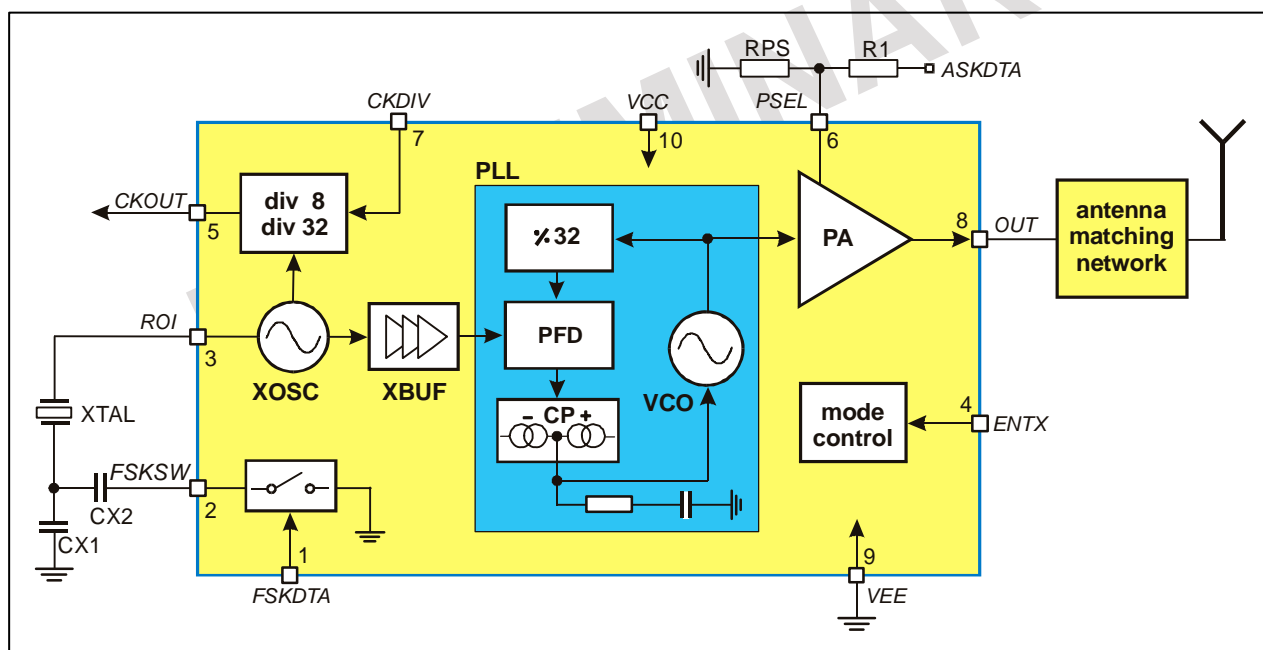

Fig. 1: Block diagram with external components
As depicted in Fig.1, the TH72036 transmitter consists of a fully integrated voltage-controlled oscillator (VCO), a divide-by-32 divider (div32), a phase-frequency detector (PFD) and a charge pump (CP). An internal loop filter determines the dynamic behavior of the PLL and suppresses reference spurious signals. A Colpitts crystal oscillator (XOSC) is used as the reference oscillator of a phase-locked loop (PLL) synthesizer. The VCO's output signal feeds the power amplifier (PA). The RF signal power  $P_{out}$  can be adjusted in four steps from  $P_{out} = -11$  dBm to +9.5 dBm, either by changing the value of resistor RPS or by varying the voltage  $V_{PS}$  at pin PSEL. The open-collector output (OUT) can be used either to directly drive a loop antenna or to be matched to a 50Ohm load. Bandgap biasing ensures stable operation of the IC at a power supply range of 1.95 V to 5.5 V.